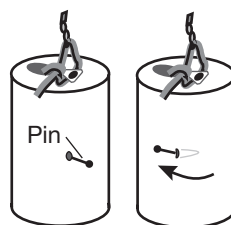
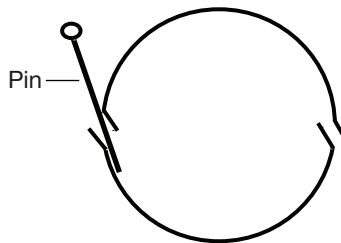

Figure 4.
Figure 5.
6. Insert the pin back into one of the holes, and then push the pin head to one side to make the hole tangential to the wall of the can (see Figure 4). Repeat this step for the second hole, pivoting the pin head to the same side as for the first. See Figure 5 for a top view cross-section of these tangential holes.